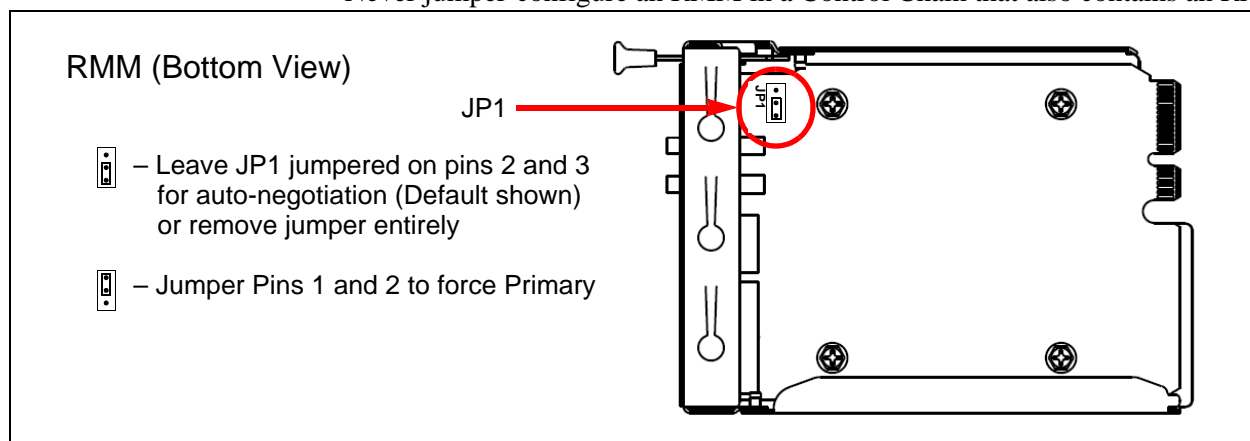

Figure 28 RMM Jumper Location
- If a jumper-configured RMM is present in a chain, that RMM is always Primary, as shown in Figure 28.
NOTE	Maintain the default setting of JP1 on the RMM (auto-negotiation enabled). See Figure 28 on page 47. Change this setting only at the recommendation of ClearCube Technical Support or a ClearCube Support Engineer.